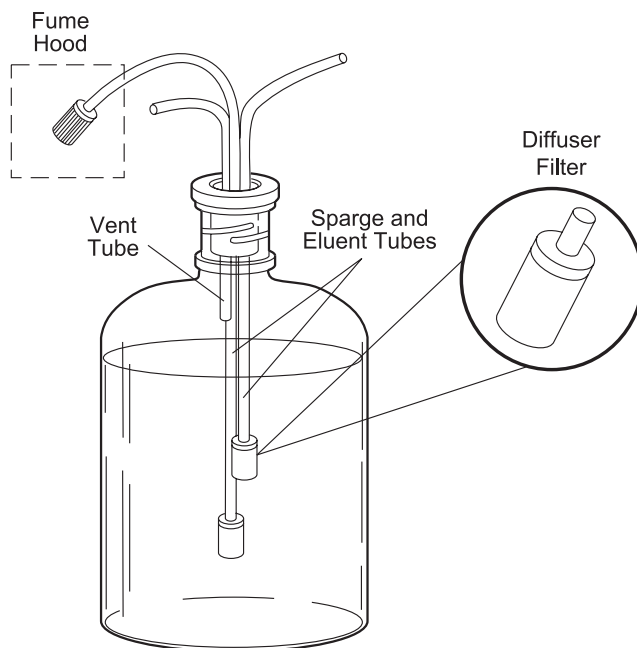

Figure 2-7 Eluent Reservoir Diffuser Filter Placement
1. Push a labeled eluent tube through a hole in the appropriate reservoir cap (Figure 2-7). Push enough tubing through the cap to reach the bottom of the appropriate eluent reservoir bottle.
3. Connect the other end of the vent tube to a clean diffuser filter, supplied in the Startup Kit (see Figure 2-7). The diffuser filter provides a slight positive pressure of sparge gas that inhibits airflow into the reservoir while eluent is being withdrawn.